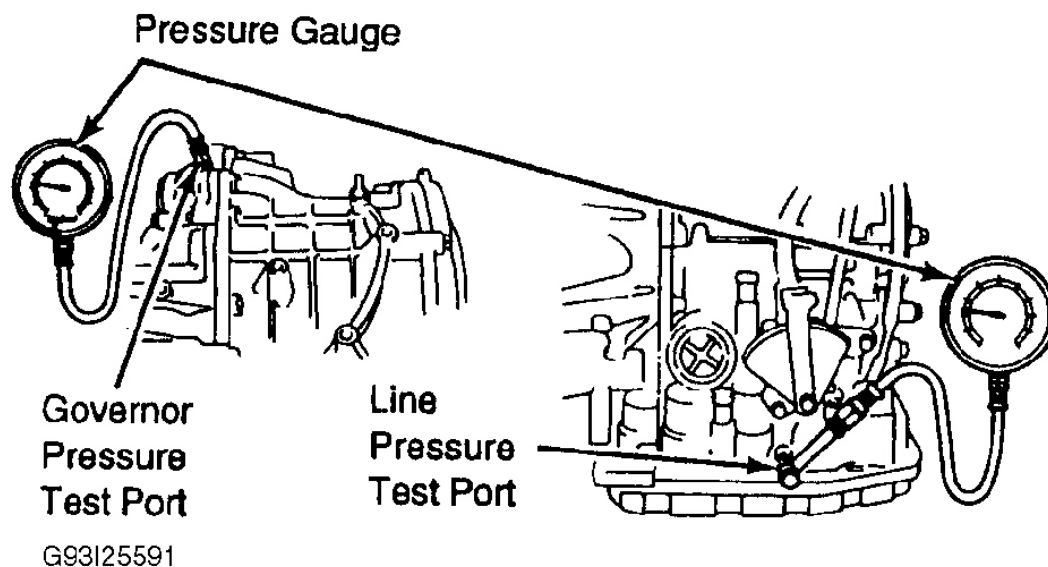

Fig. 4: Checking Governor & Line Pressure
1. Remove appropriate transaxle plug and connect pressure gauge. See **Fig. 4**. Block all wheels. Apply parking brake. Start engine and shift into "D" position.
2. Remove appropriate transaxle plug and connect pressure gauge. See **Fig. 4**. Start engine and shift vehicle into "D" position. Note governor pressure at specified speeds and engine RPM. See **GOVERNOR PRESSURE SPECIFICATIONS**. Readings at 490 and 800 RPM can be taken with vehicle on safety stands.